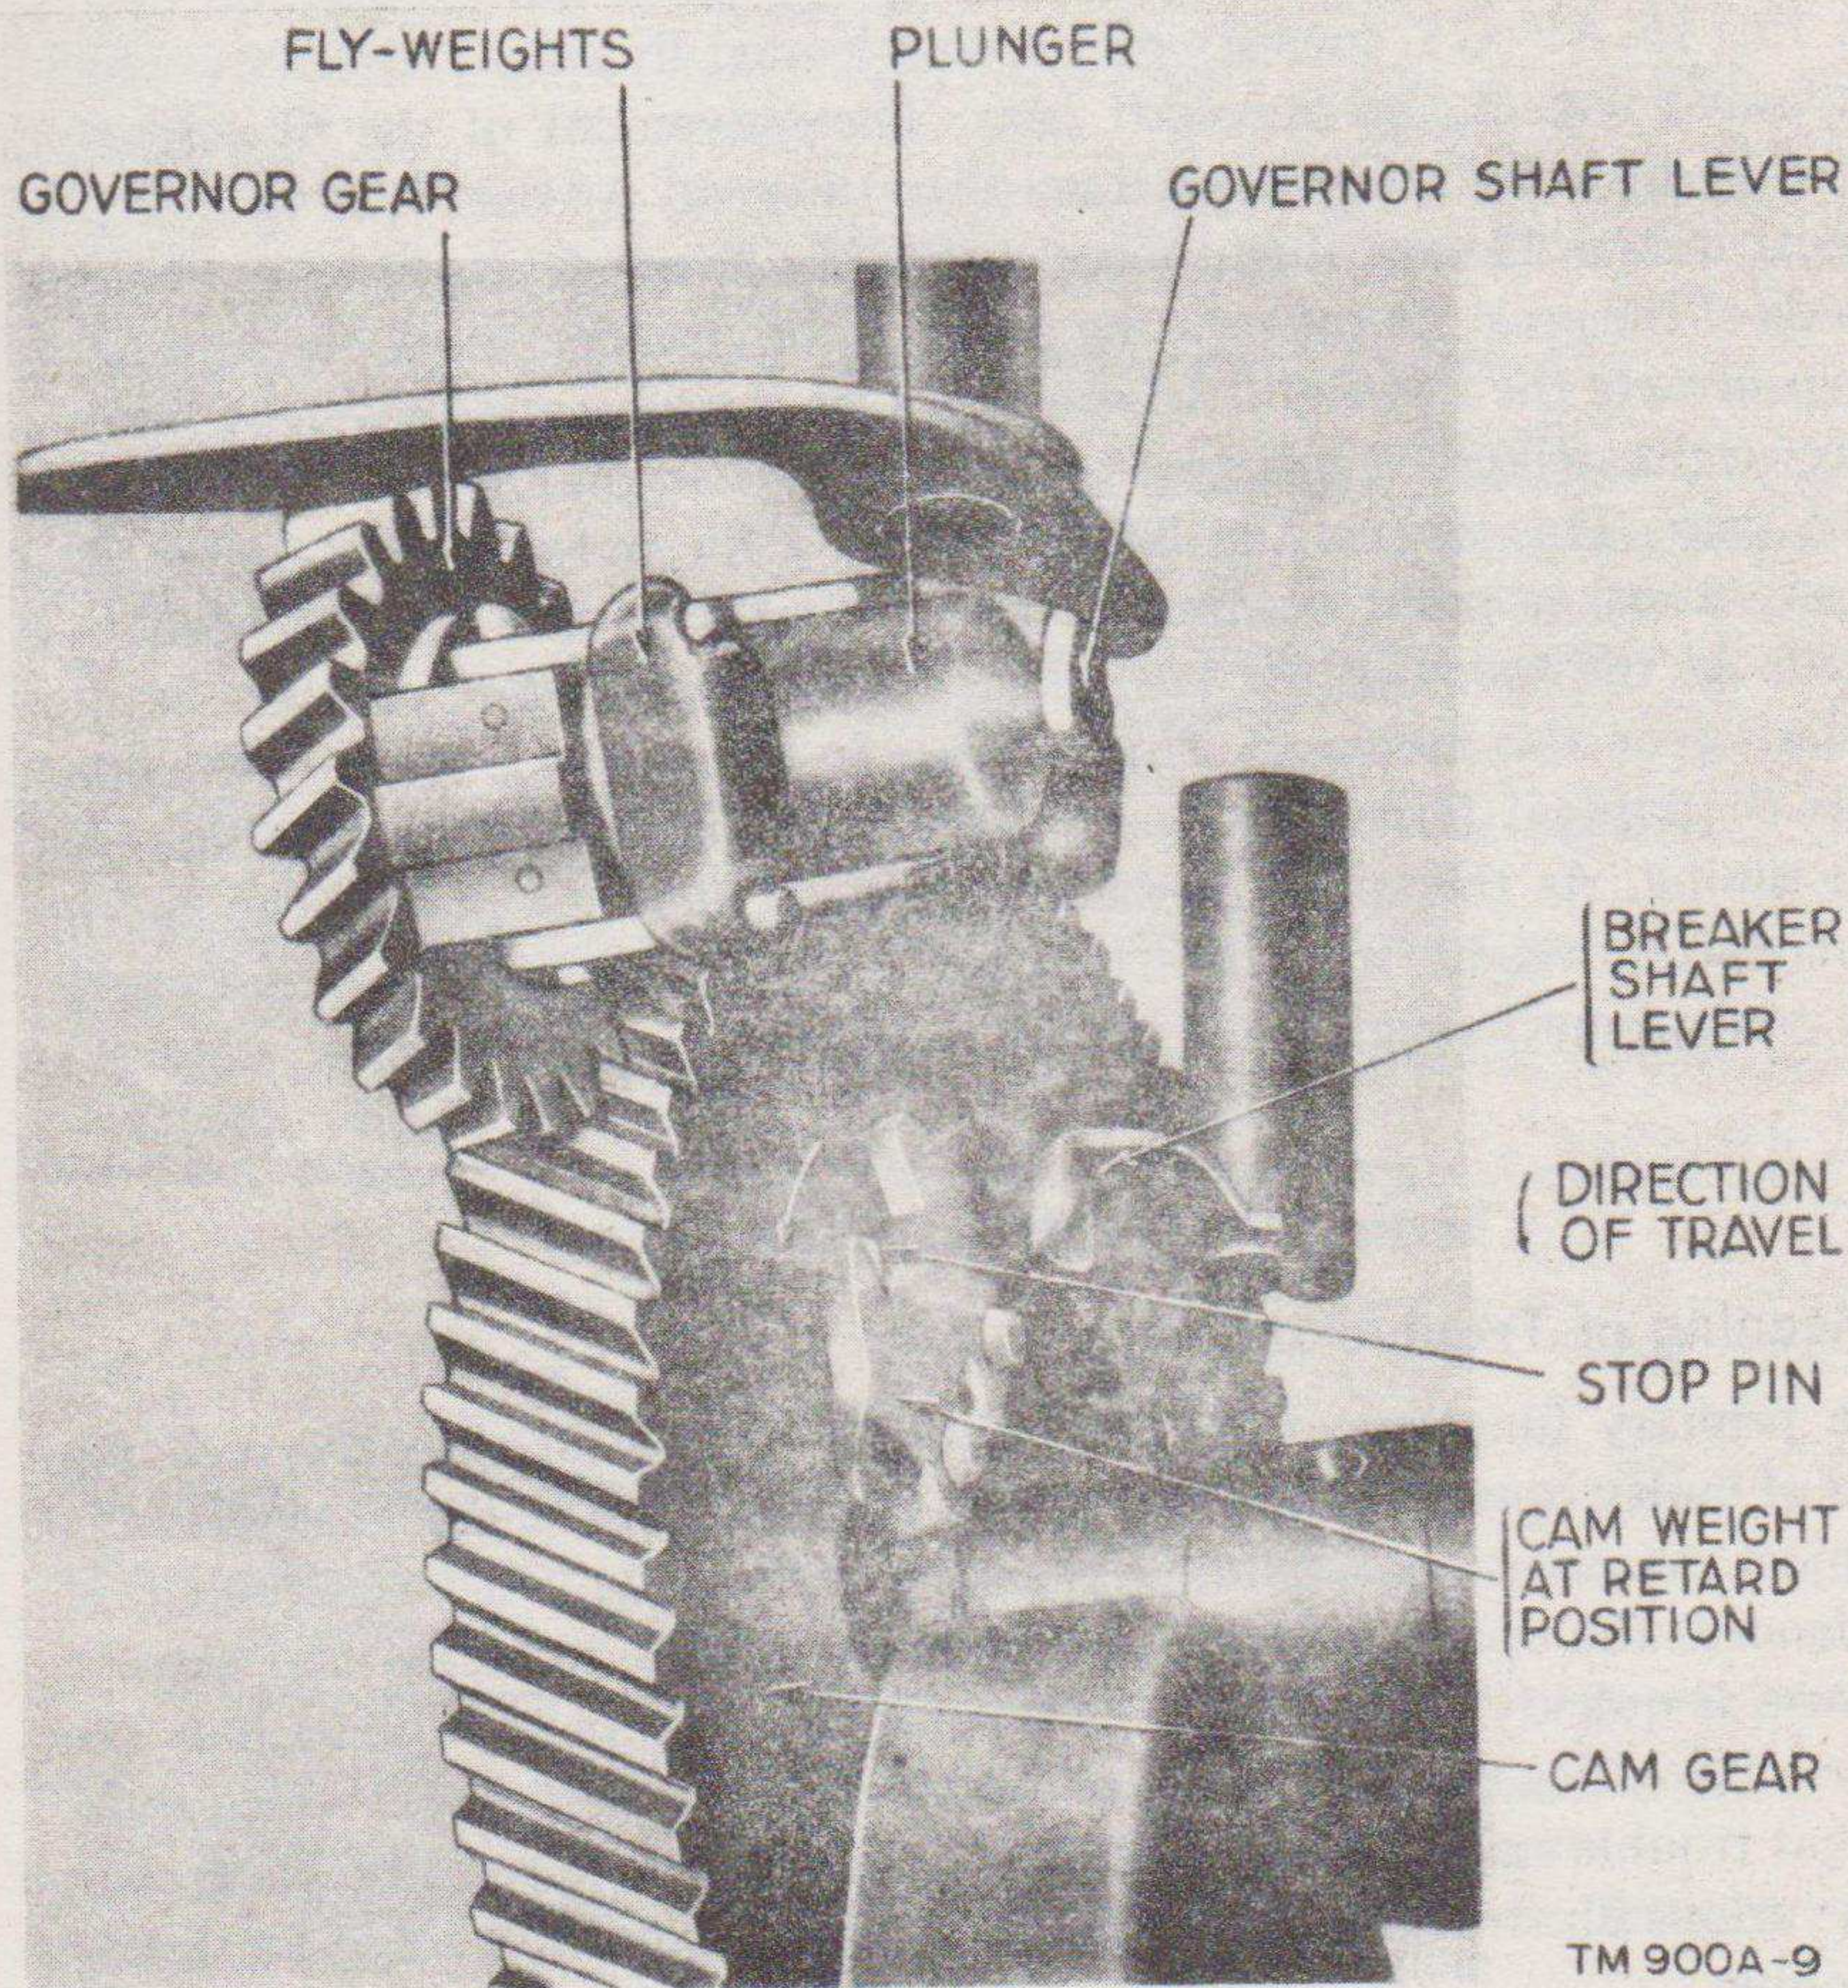

Figure 15. Power Unit PE-75-AF-GY, automatic spark control and governor mechanism.
(fig. 15)
b. Automatic Spark Control. The automatic spark control used on Power Unit PE-75-AF-GY consists of a spring-loaded flyweight assembly which is mounted within the camshaft gear. The movement of the flyweight is limited by a stop pin which is attached to the gear. As the rotating speed of the gear increases, centrifugal force causes the flyweight to advance around the axis of the gear. As the rotating speed of the gear decreases, the flyweight spring retracts the flyweight. In operation, as the gear and flyweight rotate, the flyweight strikes the magneto breaker shaft lever once for each revolution of the gear. This causes the breaker shaft lever to make and break the magneto breaker point contact at the instant that the ignition spark is desired. As the speed of the engine increases, the speed of rotation of the camshaft gear also increases. This increase in the rotating speed of the gear causes centrifugal force to advance the flyweight, and thus advance the spark timing. As the speed of the engine decreases, the pull of the spring retards the flyweight, and thus retards the spark timing. This automatic spark control mechanism is illustrated in figure 15.